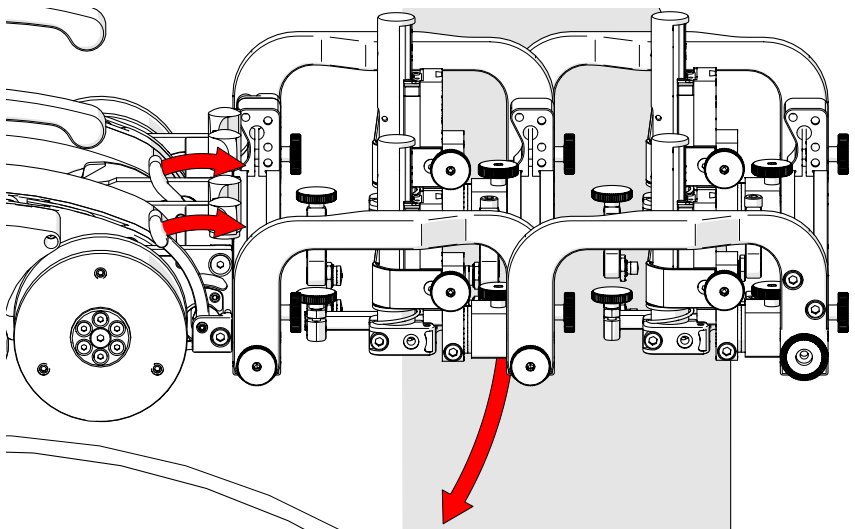
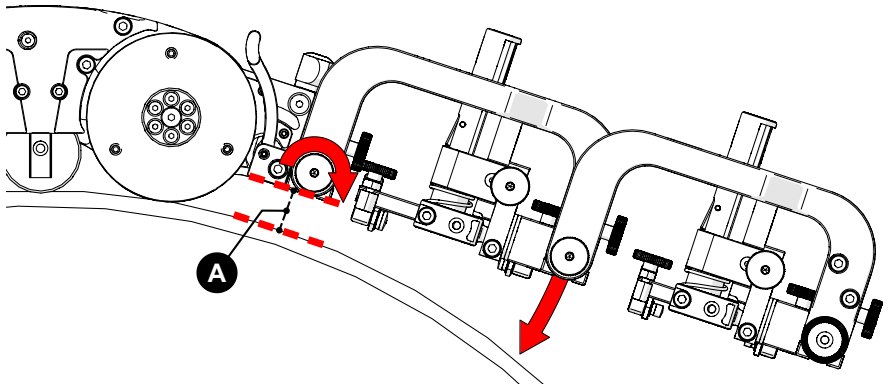
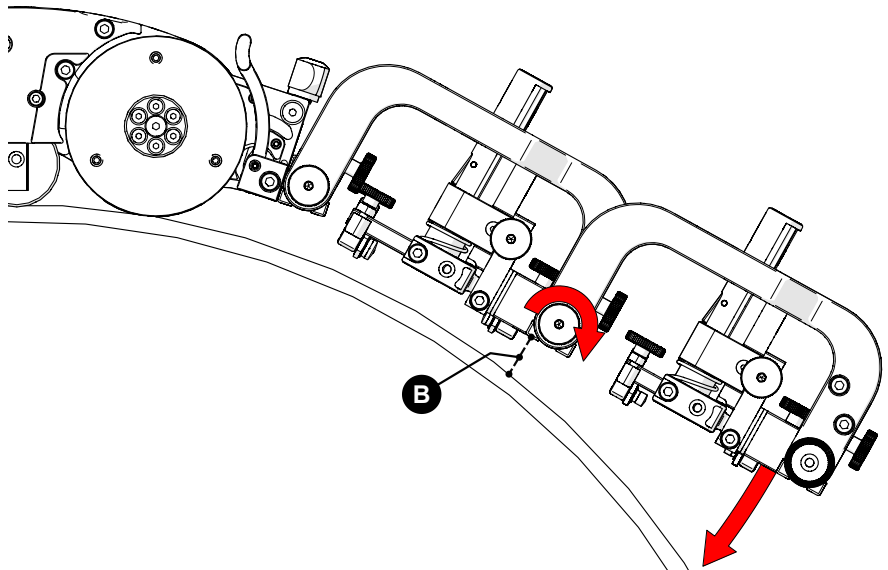
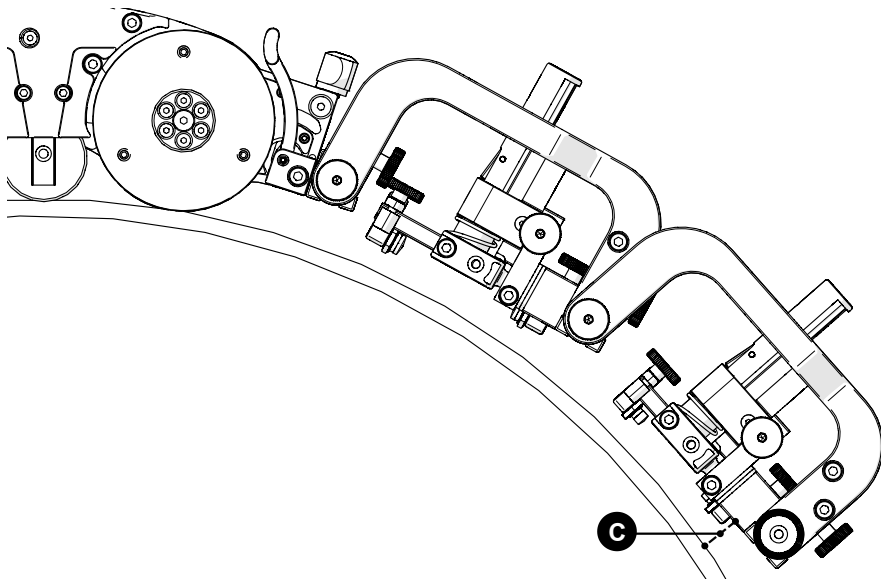

Fig. 235 - Align swivel mount with scan surface
Fig. 236 - Set rear rotational adjustment knob
Fig. 237 - Set front rotational adjustment knob
Fig. 238 - Align probes with the scan surface tangent
4. Release the two swivel mount levers (Fig. 235) to position the swivel mount parallel to the scan surface (Fig. 236). When alignment with the scan surface is achieved, lock the crawler swivel mount levers.
5. Loosen the rear rotational adjustment knob to lower the weld scan frame towards the inspection surface. Ensure gap **B** (Fig. 237) is no smaller than gap **A** (Fig. 236).
6. Loosen the front rotational adjustment knob (Fig. 237) to lower the weld frame towards the inspection surface while ensuring gap **C** (Fig. 238) is no smaller than gap **A** (Fig. 236).